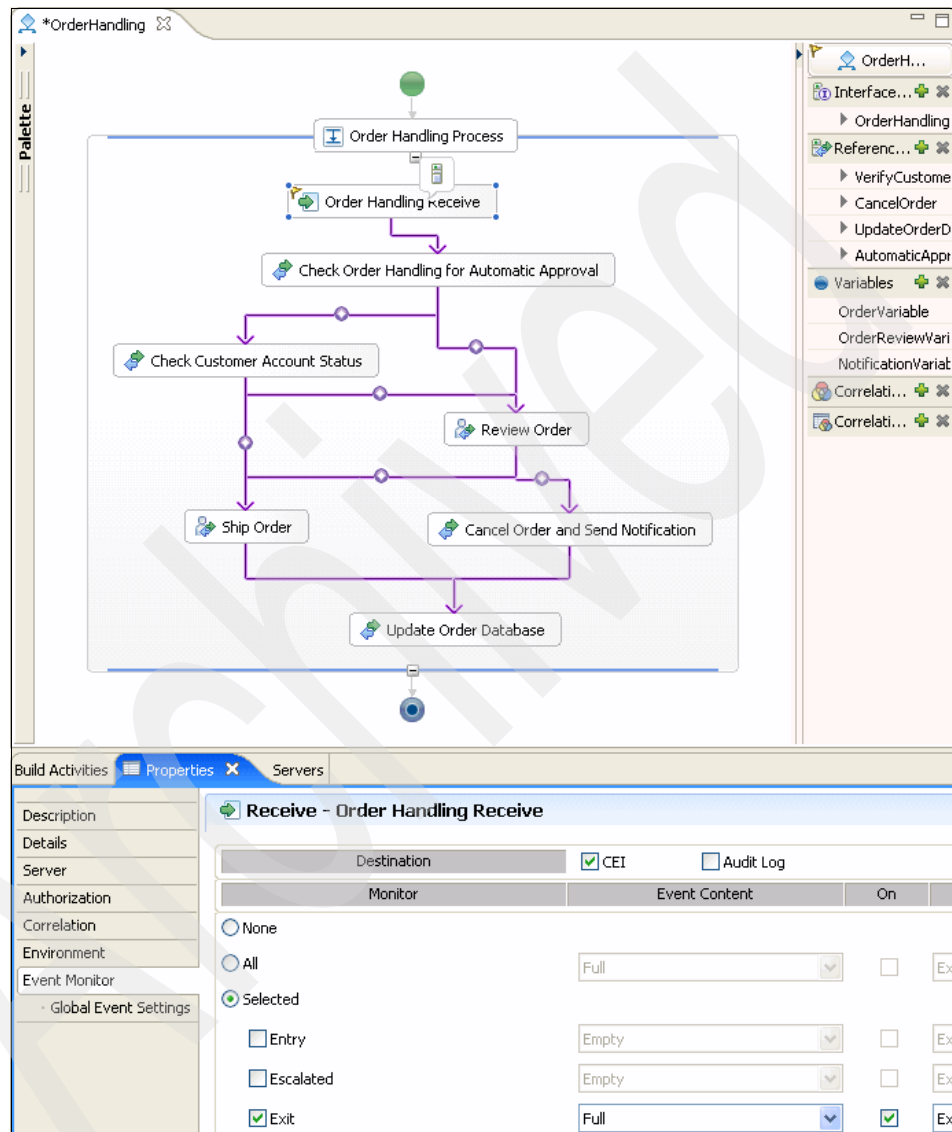

Figure 5-15 Order Handling Receive activity event selection
2. Click the **Properties** tab and then click the **Event Monitor** subtab (Figure 5-15). Click **Selected** and select the **Exit** check box.